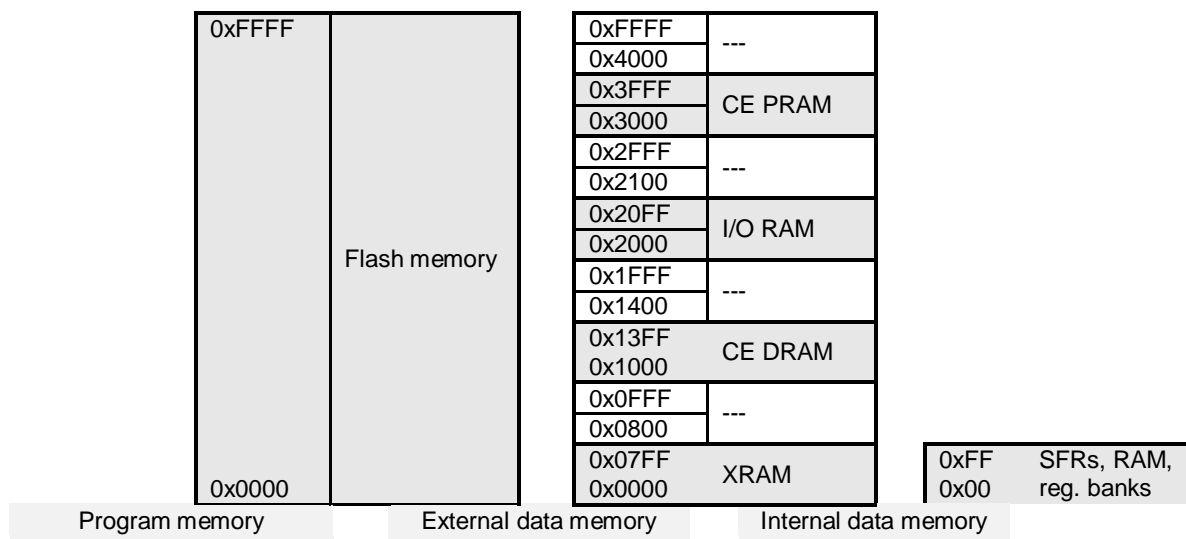

Figure 6: Memory Map
Memory organization in the 80515 is similar to that of the industry standard 8051. There are three memory areas: Program memory (flash), external data memory (XRAM), physically consisting of XRAM, CE DRAM, CE PRAM and I/O RAM, and internal data memory (Internal RAM). Figure 6 shows the memory map (see also Table 55).
**External Data Memory:** While the 80515 can address up to 64KB of external data memory in the space from 0x0000 to 0xFFFF, only the memory ranges shown in Figure 6 contain physical memory. The 80515 writes into external data memory